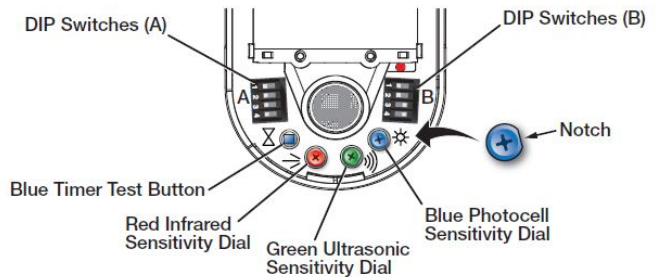

Figure 2. OCS 100W Controls
Figure 2 shows the controls of the OCS 100W:
DIP Switches (B) — (see figure 2 on the previous page)